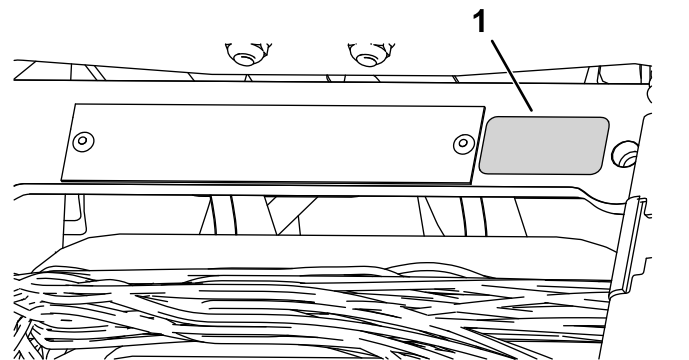

Figure 16
- Install the production year decal near the serial plate (Figure 16).